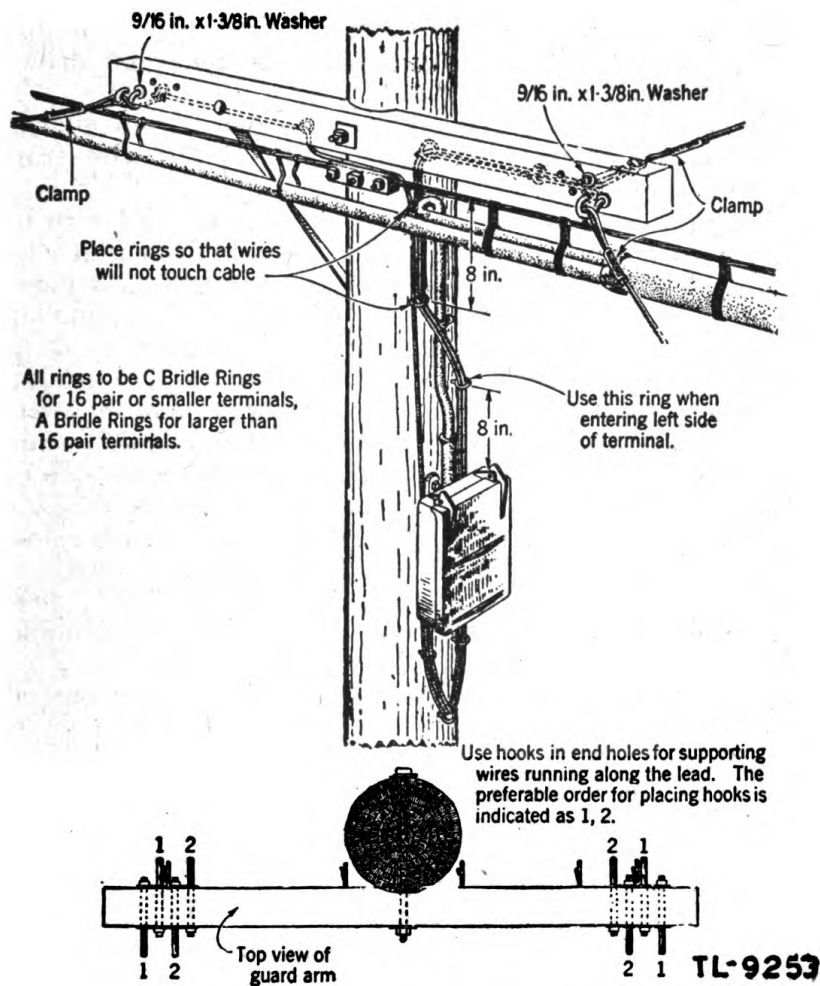

Figure 61. Typical drop wire runs from poles requiring guardarms.
c. RUNS FROM POLES REQUIRING GUARDARMS. (1) At poles requiring guardarms distribute drop wire from guardarm hooks attached to guardarm. (See fig. 61.) If brackets and knobs have been previously installed and are only partially filled, distribute drop wire from the vacant grooves of the knobs. Only two drops can be attached to a "T" knob, and only one drop to an "S" knob.
(2) Attach drop wire clamp to guardarm hook by passing wire loop of clamp over hook. Run drop wire through guardarm hook.
(3) Pull the ring wiring in the vertical pole run tight, to avoid unsightly slack. Do not pull the ring wiring so tight, however, that strain is taken off the loop of the drop wire clamp.